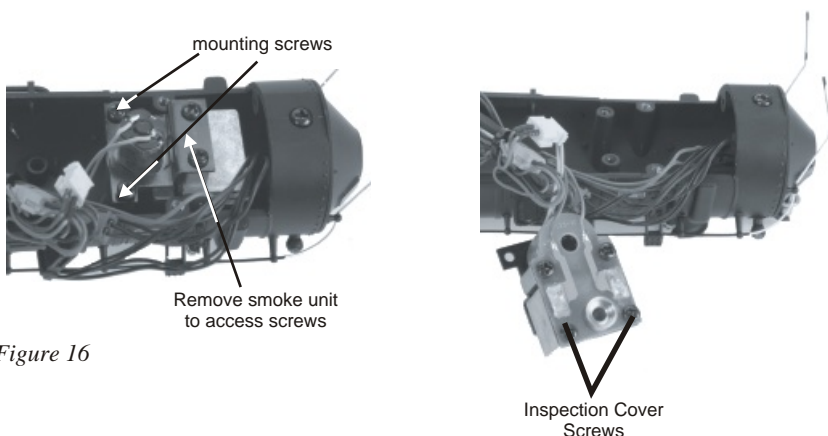

Figure 16
2. Remove the two screws securing the smoke unit inside the shell as seen in Fig. 16.
3. With the board free of the mounting screws, slide the assembly out of the boiler as seen in Fig. 16.
4. Once the unit is freed, remove the inspection cover (Fig. 16). Inspect the wick; if it is darkly discolored and hard, it should be replaced.